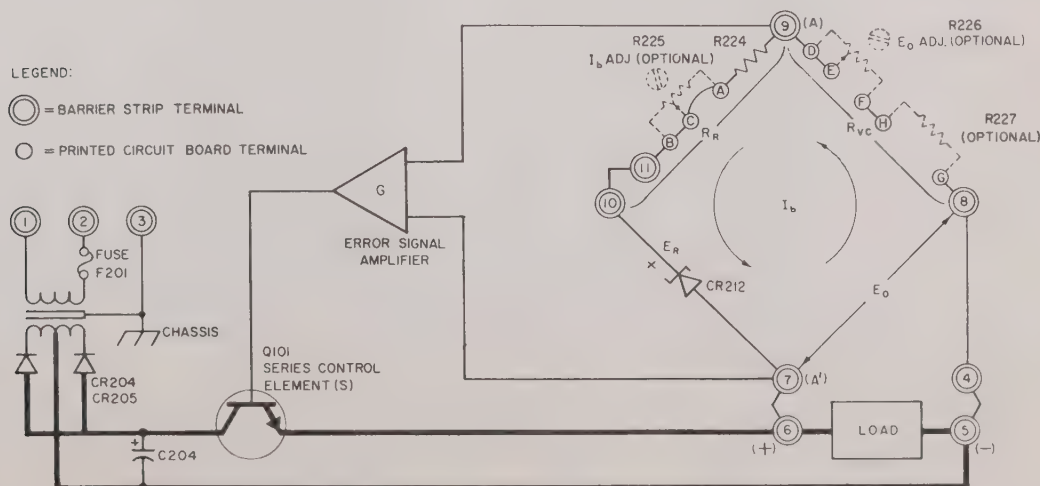

FIG. 4-1 PBX POWER SUPPLY MODULE FEEDBACK REGULATOR SYSTEM (SIMPLIFIED SCHEMATIC)
(Refer to Fig. 4-1 and Main Schematic)
between terminals (8) and (9) on the front barrier strip. As shown in Fig. 4-1, a reference voltage ( $E_r$ ) in series with the reference resistance ( $R_r$ ) is continuously compared with the output voltage ( $E_o$ ), in series with the voltage control resistance ( $R_{vc}$ ). At balance, a constant bridge current ( $I_b$ ) is flowing through the bridge, keeping the error signal at bridge terminals A and A' at approximately zero volts. Any deviation from the set output voltage will tend to change  $I_b$  in the sensing half of the bridge and thereby produce an error signal at the bridge terminals A and A'. This error signal is then amplified and acts as a control signal for the series regulator transistor, changing the voltage drop across it in such a way as to compensate for the change in output voltage.